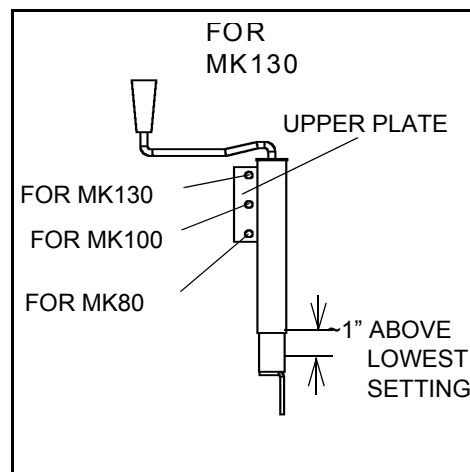

Figure 2.4
5. Connect the supplied short hydraulic hoses to the hydraulic control valve and hydraulic motor (Figure 2.4).